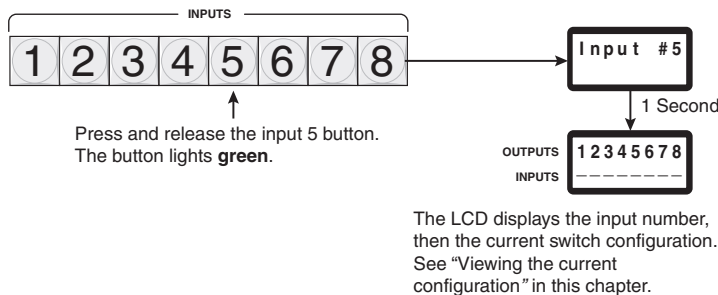

Figure 3-8 — Select an input
1. Press and release the input 5 button (figure 3-8).